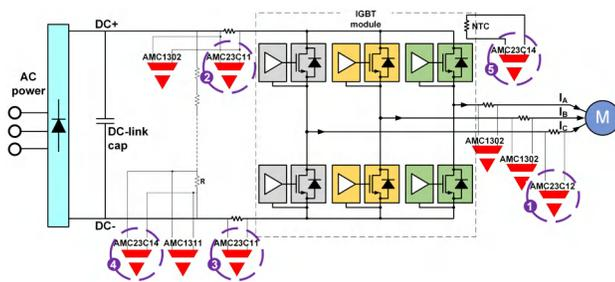

Figure 5. Ultra-fast fault detection in electric motor drives.
Figure 5 shows the Texas Instruments (TI) **AMC23C14** family of low-latency reinforced isolated comparators in short-circuit current, overcurrent, undercurrent, overvoltage, undervoltage and overtemperature fault-detection scenarios. These devices integrate adjustable comparator threshold functions, include a high-side low-dropout regulator for the power supply, and have a response time of sub-0.5 μs in an eight-pin small-outline integrated circuit package.